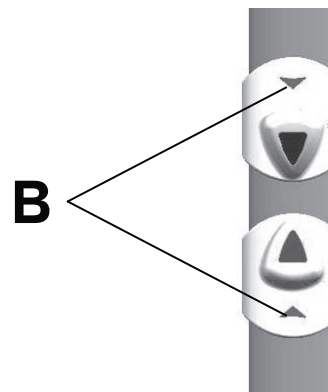

Figure 8 – Open/close indicators
Note - The open/close indicators (B) will show yellow when the door is released from the lock (Figure 8).
Note - The open/close indicators (B) will show green when the door is locked in the closed position (Figure 8).